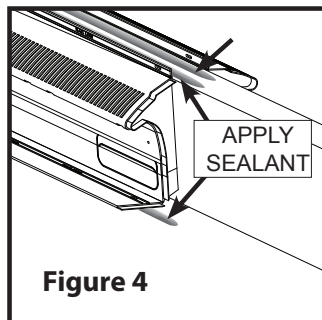

Figure 4
2. Apply sealant under both the top and bottom hinged flanges. (WARNING: Ensure that the sealant on the bottom flange is on the ridge side of the nail line.) (See Figure 4)